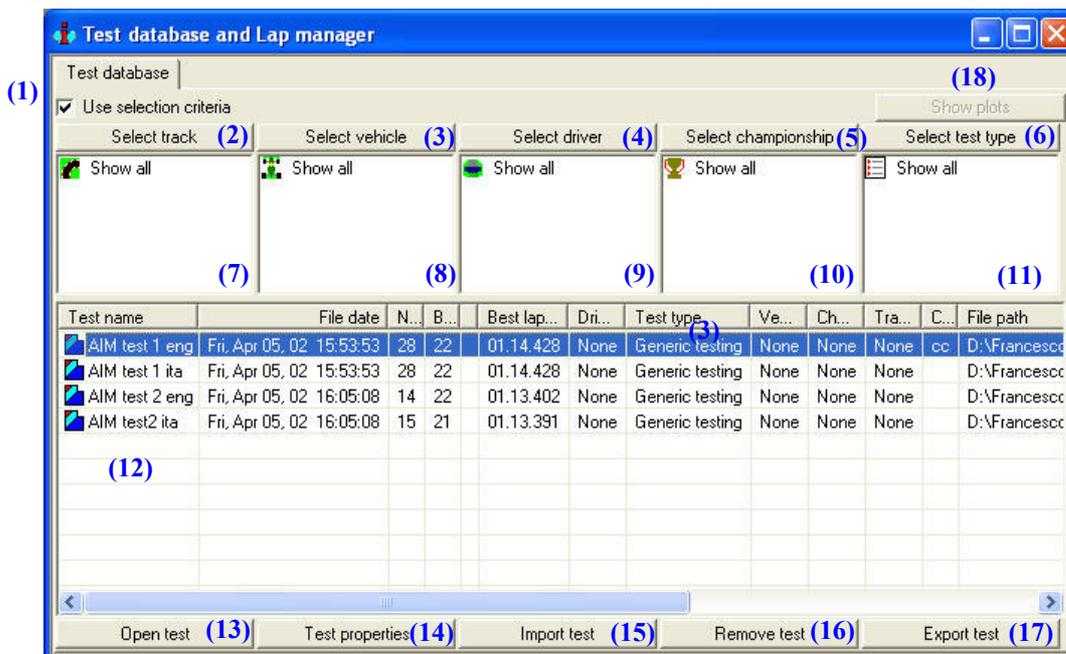
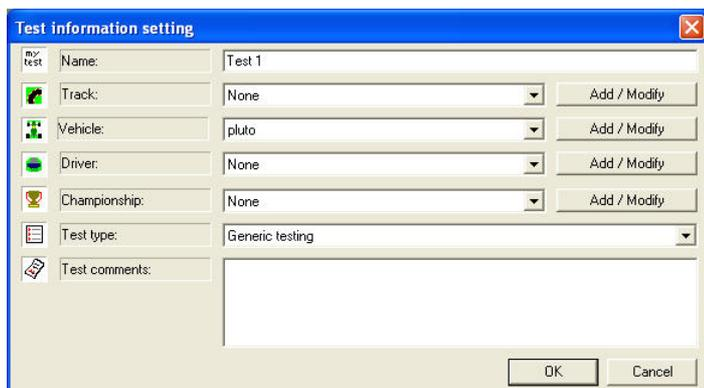

Fig. 3.1– *Test database and Lap manager* window: Test database layer.
Fig. 3.5– *Add test to database* window
Once run **Race Studio Analysis**, it will appear the *Test database and Lap Manager* window, as shown in Figure 3.1. This window is divided into two separate rows:
- The selected database's sub-categories will appear inside the corresponding "selection box", labelled from (7) to (11). For instance, in the example described in Figure 3.3, it will appear the text "Qualifying testing" inside the selection box number (11) of Figure 3.1.
- Option 1: left click on the file name and press "Open test button" (13).
- Once run **Race Studio Analysis**, it will appear the *Test database and lap manager* window, as shown in Figure 3.1.
- Push the "Import test" (15) button and select the test you wish to add to the database. It is reminded that you may import a test both from your PC's hard disk and from the floppy disk but **not** from the CD-ROM drive. In this last case, it is suggested first to copy the DRK file on your PC's hard disk and then to import it in the database.
- As shown in Figure 3.5, the user may set 5 parameters, each one of them belongs to a database category (Vehicle name, Driver, Track, Championship and Test type).
- From the *Add test to database* window, instead of pressing the “Add/Modify” button, select the desired vehicle name from the corresponding “combo” menu, located in the middle of Figure 3.5.
In order to modify the test properties, please select the desired test (single-click on the test name), and then press button *Test properties*. It will appear the *Test information setting* window, as shown in Figure 3.5.
If you wish to delete a test from the database, please enter the *Test database and Lap manager*, shown in Figure 3.1, and select the test you wish to delete by single-clicking on the test name.